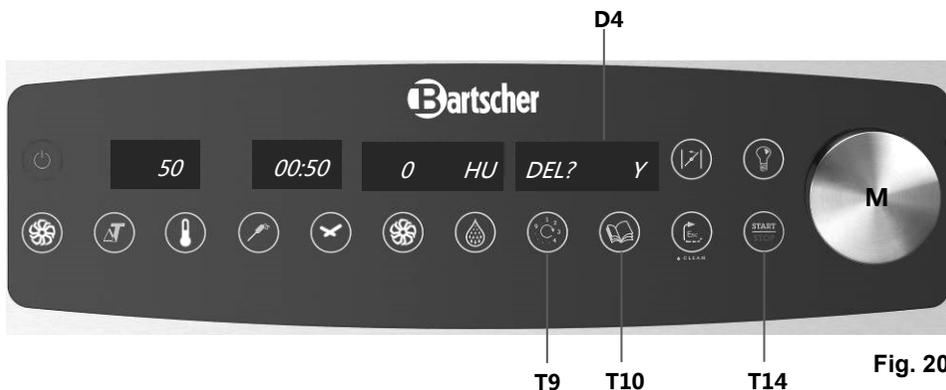

Fig. 20
To save the changes press key **T10 (fig. 20)** for 3 seconds. The modified program overwrites the previous version.
3. Press and hold key **T9 (fig. 20)**
4. The indicator **D4 (fig. 20)** shows **DEL? N**
5. Rotate knob **M (fig. 20)**, the indicator **D4 (fig. 20)** displays the question **DEL? Y**. Confirm the operation by pressing knob **M**.
In order to **remove a part of the cooking program** select the cooking phase to be removed and press key **T9 (fig. 20)**. Then follow the instructions in sections 4 and 5 above.